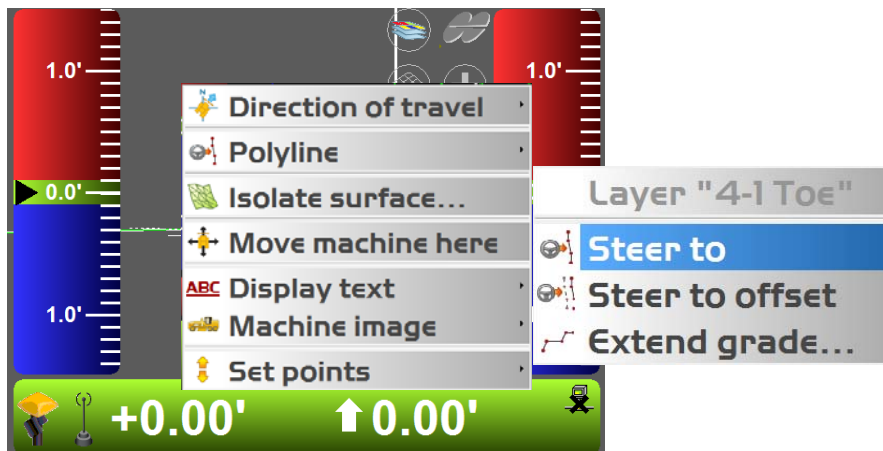

Figure 27: Selecting and Steering to a Polyline
2. On the pop-up menu, tap **Polyline ► Steer to**; graphical cross lines display along the selected polyline (Figure 27).